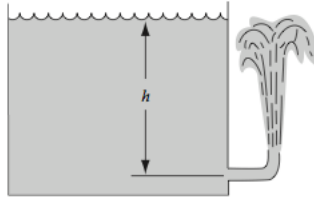

FIGURE P3.52
- 3.52** An open-top tank is discharging glycerine through an opening onto which an elbow has been placed, as in Figure P3.52. Determine the height of the glycerine jet, assuming frictionless flow and a tank diameter that is much greater than the exit pipe diameter.